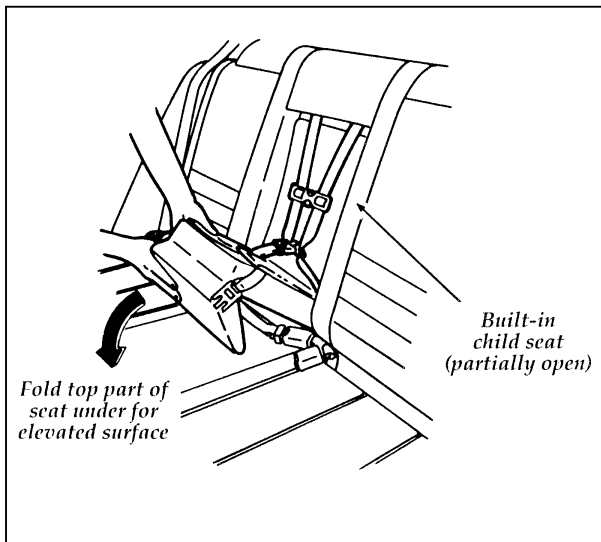

Figure 5: Unfolding built-in child seat
5. Fold the top half of the child seat under the child seat cushion to provide an elevated seating surface as shown in Figure 5.